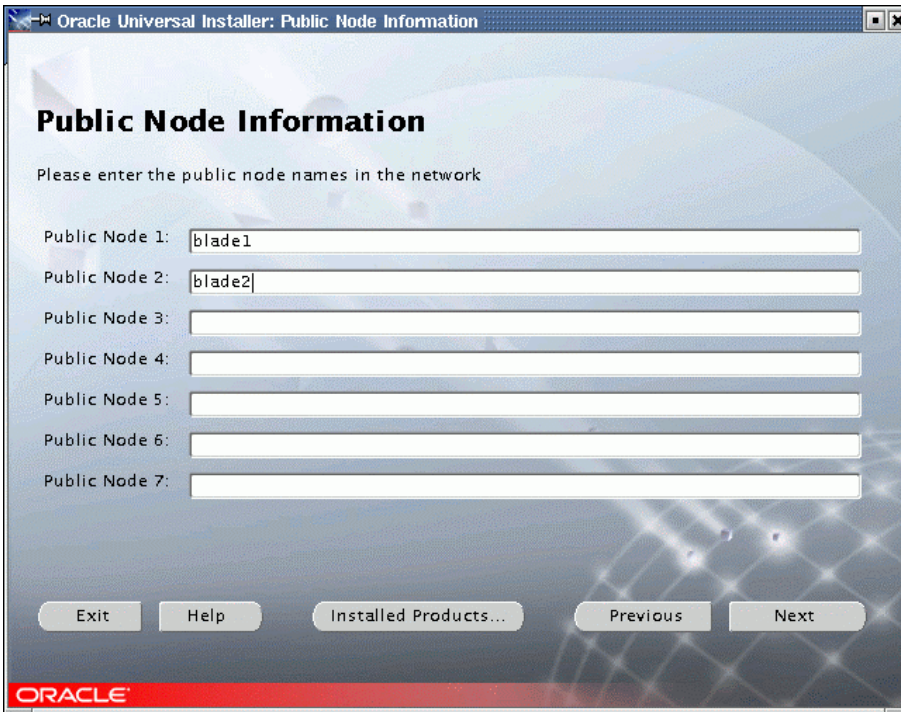
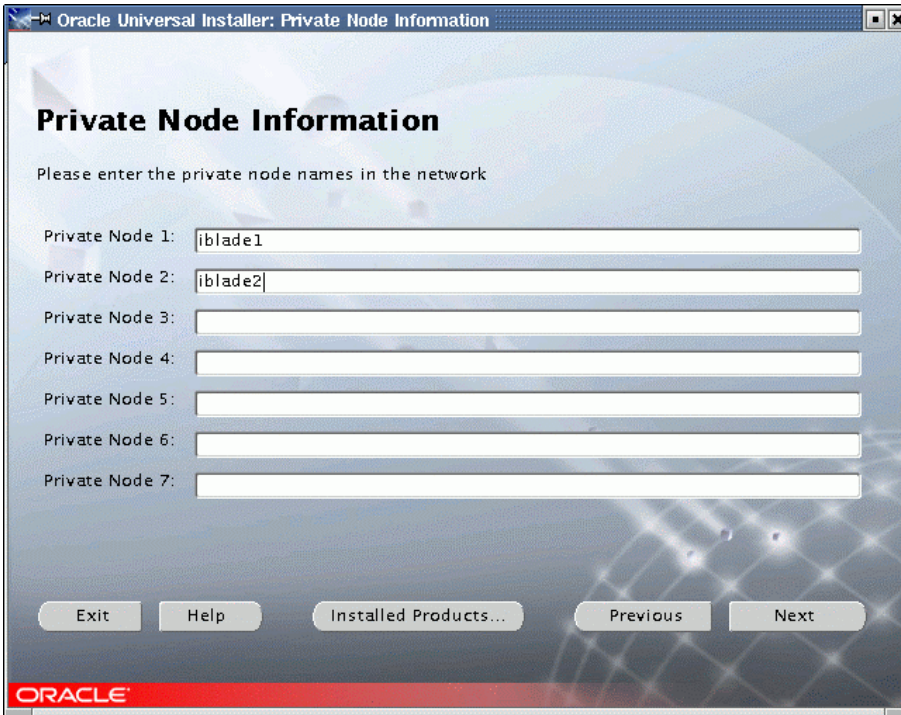

Figure 60. Public Node Information
Figure 61. Private Node Information
- The next screens will prompt for public node information and private node information. Enter the information shown in Figure 60 and Figure 61.